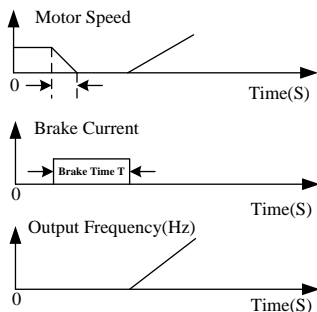

Figure 6-12 DC Brake Process at Start
**F04.01** sets DC brake active time at start, inverter starts to run immediately when the time is up. If F04.01=0.00, DC brake is disabled at start. See Figure 6-12 for DC brake at start.